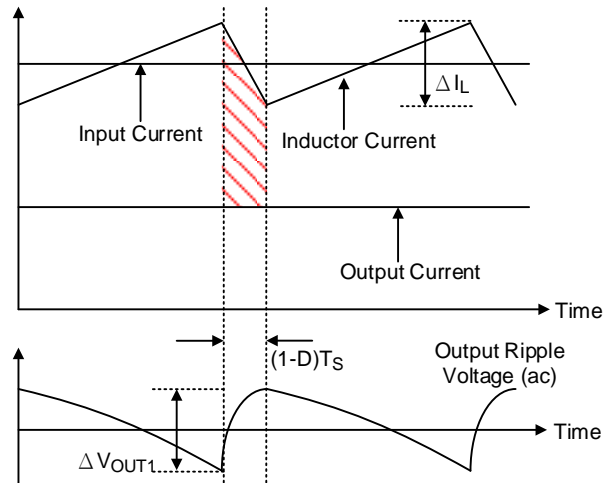

Figure 1. The Output Ripple Voltage without the Contribution of ESR
Output ripple voltage is an important metric for assessing performance. It comprises two components: one is the product of the input current and the Equivalent Series Resistance (ESR) of the output capacitor; the other is created by the charging and discharging cycles of the output capacitor. As shown in Figure 1, ΔV_{OUT1} can be evaluated using the principle of ideal energy equalization. Based on the definition of charge (Q), the Q value can be calculated using the following equation: